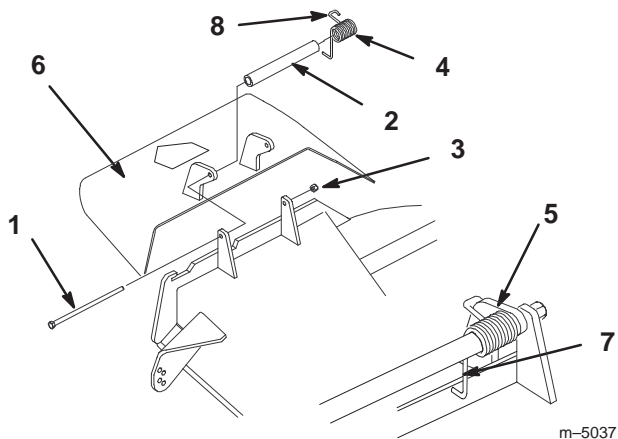

Figure 65
1. Remove the locknut, bolt, spring and spacer holding the deflector to the pivot brackets (Fig. 65). Remove damaged or worn grass deflector.
Note: Make sure the **L** end of spring is installed behind deck edge before installing the bolt as shown in figure 65.
3. Install bolt and nut. Place **J** hook end of spring around grass deflector (Fig. 65).